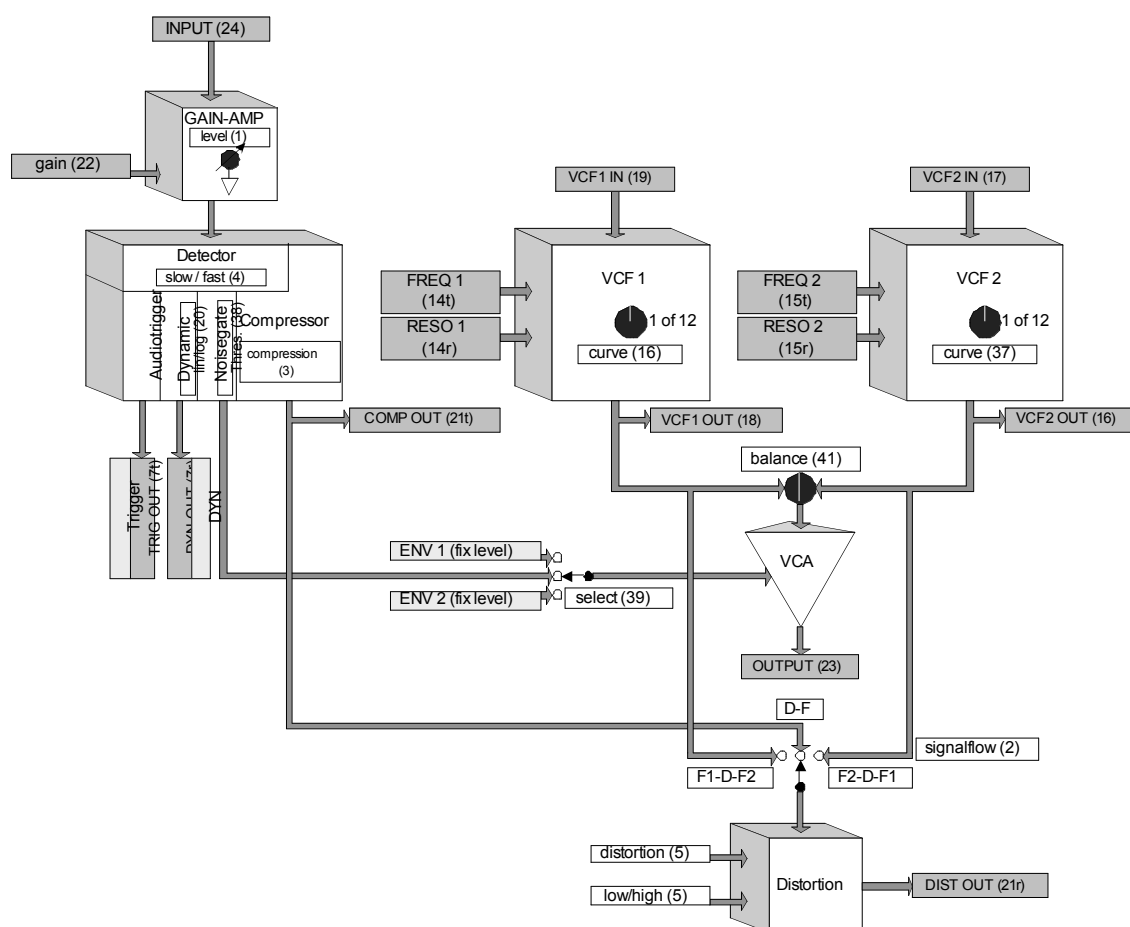

Fig. 7.3.1 Modular structure of the audio processing
Fig. 7.3.1 shows a block diagram of the audio-modules as modular blocks. For better clarity, most of the filter-controls are hidden. Concerning the audiopaths, the figure is almost complete. Invisible is the internal wiring of both filter inputs via [signalflow]-toggle-switch (2) and their connection to the output of the distortion unit. (see chapter 8.3).
Please note! If a VCF is fed from an external audio input ("IN VCF1" (19) or "IN VCF2" (17)) on the rear-panel, the internal routing to its input is disconnected! In case that e.g. both filters are fed via their external inputs, the [signalflow]-switch would only determine if the outputs of the three modules **compressor**, **VCF 1** or **VCF 2** provide the input signal for the **distortion** unit (see also fig. 7.3.1). This means a high routing-flexibility of the **distortion** unit, because of its separate output.